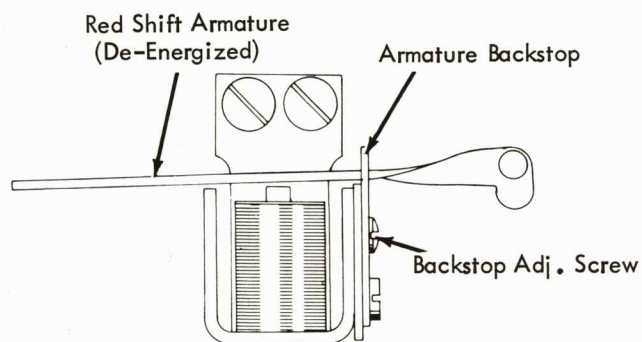

FIGURE 205. Red Shift Armature Backstop
6. Red Shift Armature Backstop (Fig. 205 & 206) - With the armature de-energized, position the red shift armature backstop to obtain .002" to .005" clearance between the stud and the follower latch slot.